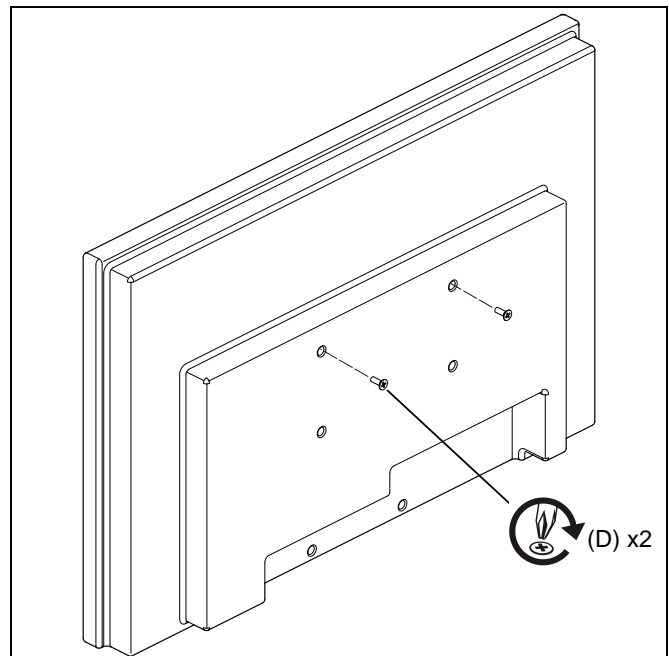

Figure 7
1. Partially install two screws (D) into upper mounting holes in display back. (See Figure 7)